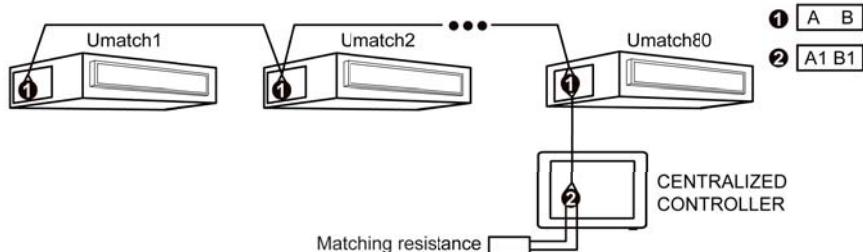
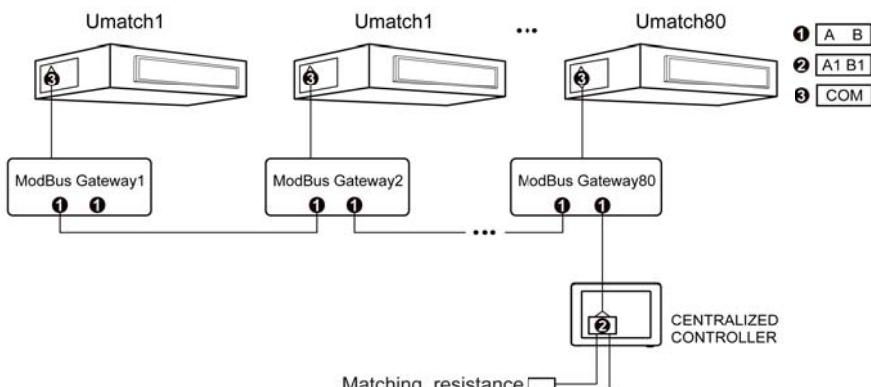
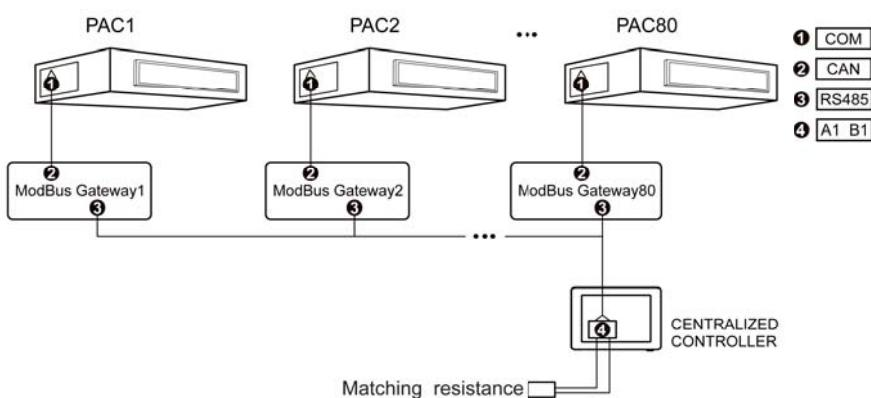

Fig. 3.7 Centralized controller connects to network of U-Match unit (with Modbus interface)
Fig. 3.8 Centralized controller connects to network of U-Match unit (needs to add Modbus gateway)
Fig. 3.9 Centralized controller connects to network of PAC unit
- (1) The units controlled by one centralized controller should not exceed 80 sets.
- (2) When the centralized controller is connected to the U-Match unit network with COM\_BMS(Modbus) interface, connect the network as shown in Fig. 3.7, otherwise connect the network as shown in Fig. 3.8. The A1 and B1 interfaces of the centralized controller and the unit/gateway A and B interfaces need to be connected one by one; when the centralized controller is connected to the PAC unit, connect to the network as shown in Fig. 3.9, the PAC unit is connected to the CAN interface of gateway through the COM interface, and the gateway RS485 interface is connected to the A1, B1 interfaces of centralized controller.
- (3) The centralized controller must be connected in series with the indoor unit of the last unit, and connected with matching resistors at the A1 and B1 interfaces together with the communication cable.
- (4) The gateways in Fig. 3.8 and 3.9 need to be purchased separately; and each indoor unit needs a gateway.
- (5) The address of indoor unit of the unit needs to be set in the range of 1-80, and cannot be the same, otherwise it will cause communication failure. The address settings are as follows:
- ① Setting methods for indoor unit address of U-Match unit with 485 communication: